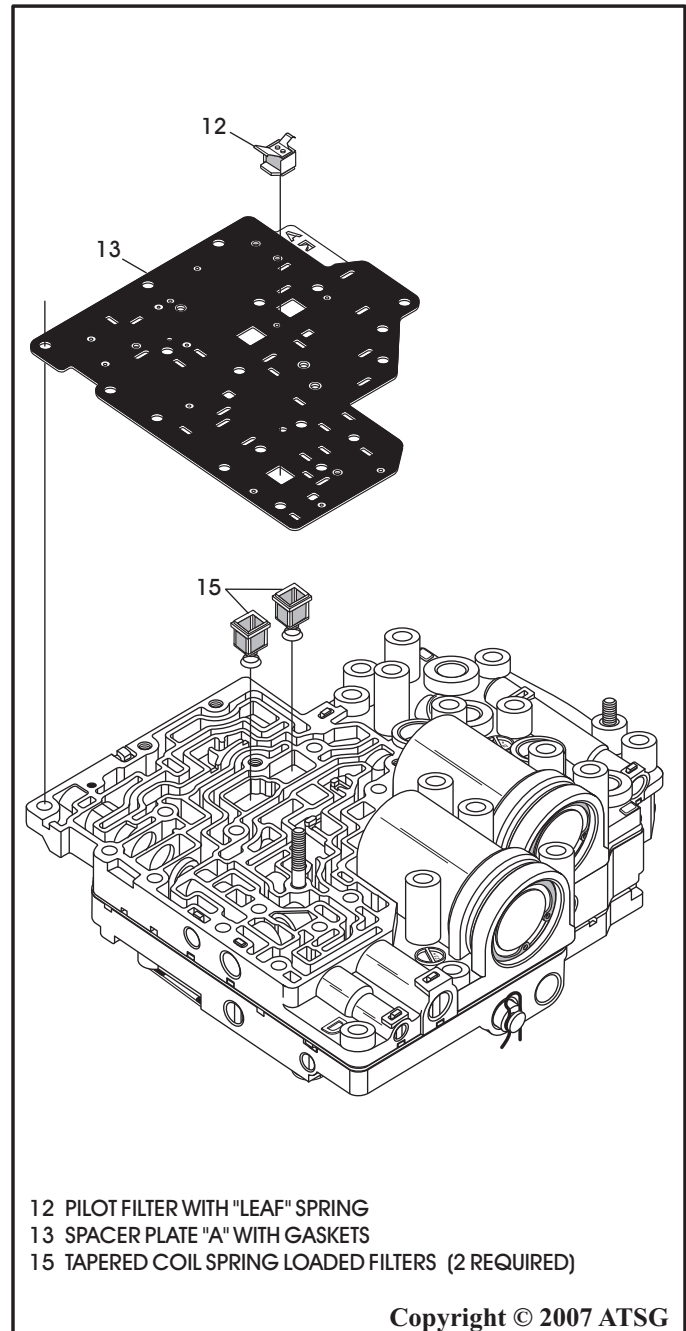

Figure 106
40. Install the two tapered coil spring loaded filters into their pockets in the lower valve body, with the spring side down, as shown in Figure 106.
41. Install spacer plate "A" with bonded gaskets over one bolt onto the lower valve body, as shown in Figure 106, ensuring you have the proper spacer plate for Freelander ("A" "E").
42. Install the pilot filter with the "leaf spring" facing up, and the wide leg of the "leaf spring" facing the bottom of valve body, as shown in Figure 106.